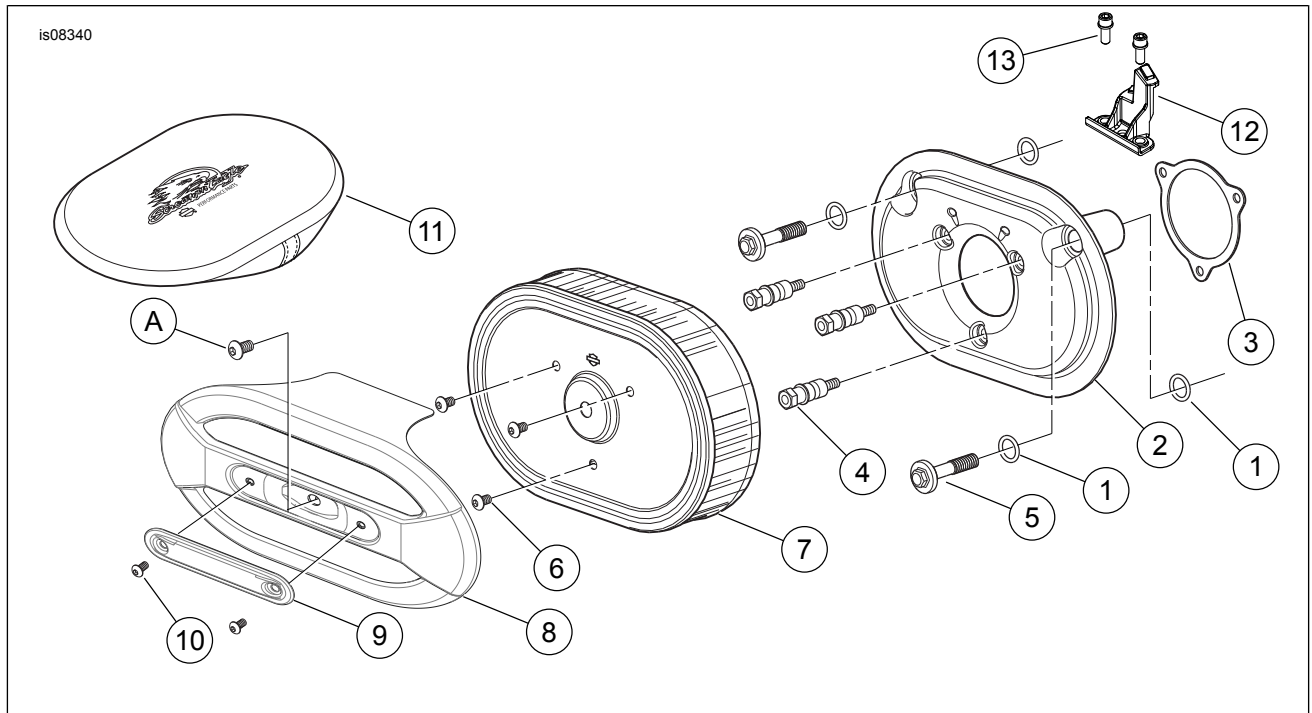

Figure 3. Service Parts: Screamin' Eagle Ventilator Elite Performance Air Cleaner Kit
See Figure 3 and Table 1.
1. See Figure 3. Install ACR clip (12) onto the bosses of the induction module where the support bracket was mounted. Secure with screws (13). Tighten screws to 3.4–4.5 N·m (30–40 in-lbs).
3. Install two O-rings (1) in the grooves around the breather bolt holes on the induction module side of the backplate assembly (2). Install the remaining two O-rings in the grooves in the underside of the heads of the breather bolts (5).
4. Remove the liner from the adhesive backing of the gasket (3). Carefully position the adhesive side of the gasket to the backplate. Align the equally spaced screw holes. Press the gasket firmly into place.
5. Insert new breather bolts (5) through the backplate.
8. Install the air cleaner mounting studs (4) all the way through the backplate (2) until the screw threads are captured in the induction module. Leave fasteners loose.
*Whenever the air cleaner cover is installed, apply Loctite 243 - Blue to the air cleaner cover screw (A).*
1. See Figure 3. Secure the air filter element (7) to the air cleaner mounting studs (4) using three bright-finish TORX® screws (6) from the kit. Tighten the screws to 6.2–6.8 N·m (55–60 **in-lbs**).
2. Apply Loctite 243 - Blue to the threads of the OE air cleaner cover screw (A). Secure the air cleaner cover (8) to the air filter element (7) with the screw. Tighten the screw to 4.1–6.8 N·m (36–60 **in-lbs**).
3. Assemble the air cleaner cover insert (9) to the air cleaner cover with two chrome screws (10). Tighten securely.
1. See Figure 3. Remove the air cleaner cover (8) and inspect the filter element (7) every 8,000 km (5000 mi), or more often under dusty conditions.